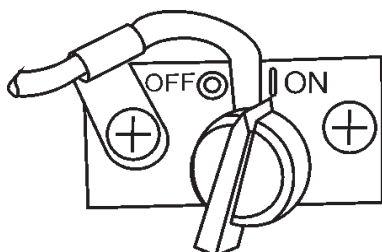

Figure 8. ON/OFF Switch (ON Position)
2. Set the engine ON/OFF switch (Figure 8) to the "ON" position (start).